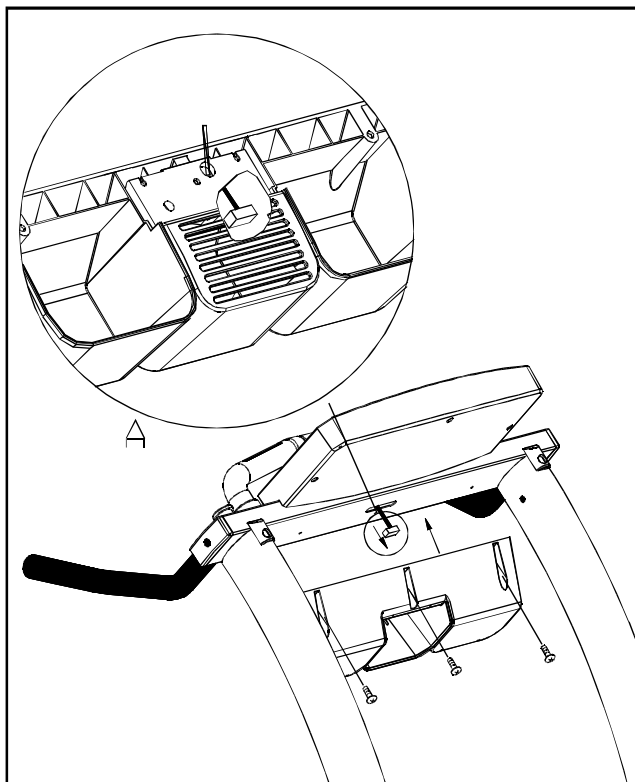

Fig.11
- (3) Pass the wiring from the back of electronic display through the hole on the top of fan cover as shown in Fig.11A. Attach the accessory tray. (see Fig.11)